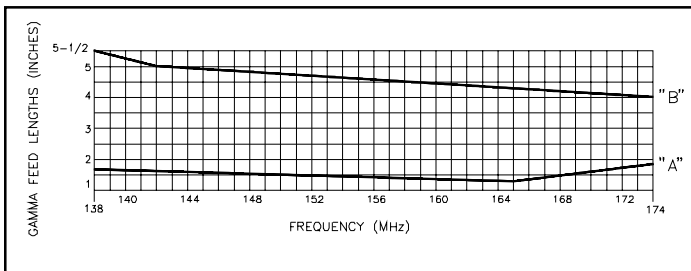

Figure 7: ASP816 Three-Element Gamma Feed Lengths
5. Before securing the gamma feed, set the capacitor tube and gamma clamp lengths. Refer to Figures 7, 8, and 9 to determine the dimensions.
- Verify that the gamma capacitor tube and gamma clamp are set to the approximate dimensions shown in Figures 7, 8, and 9.
Verify that the gamma capacitor tube and gamma clamp are set to the approximate dimensions shown in Figures 7, 8, and 9.